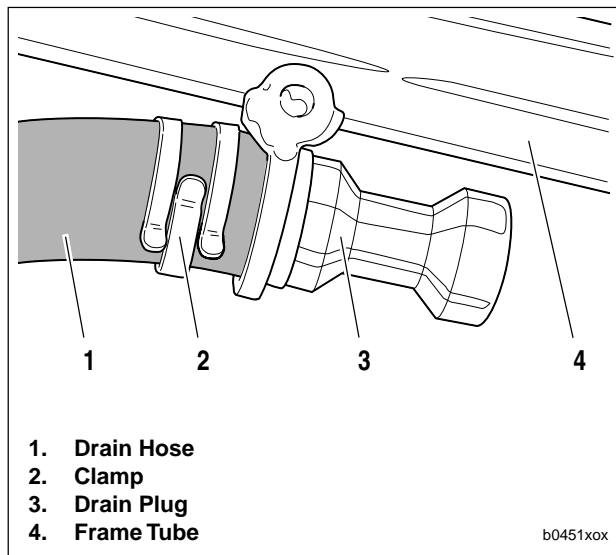

Figure 2-61. Oil Tank Drain, Typical
8. Remove cap from oil tank. See Figure 2-61. Drain oil tank by removing clamp (2) from drain hose (1). Pull hose from drain plug (3).